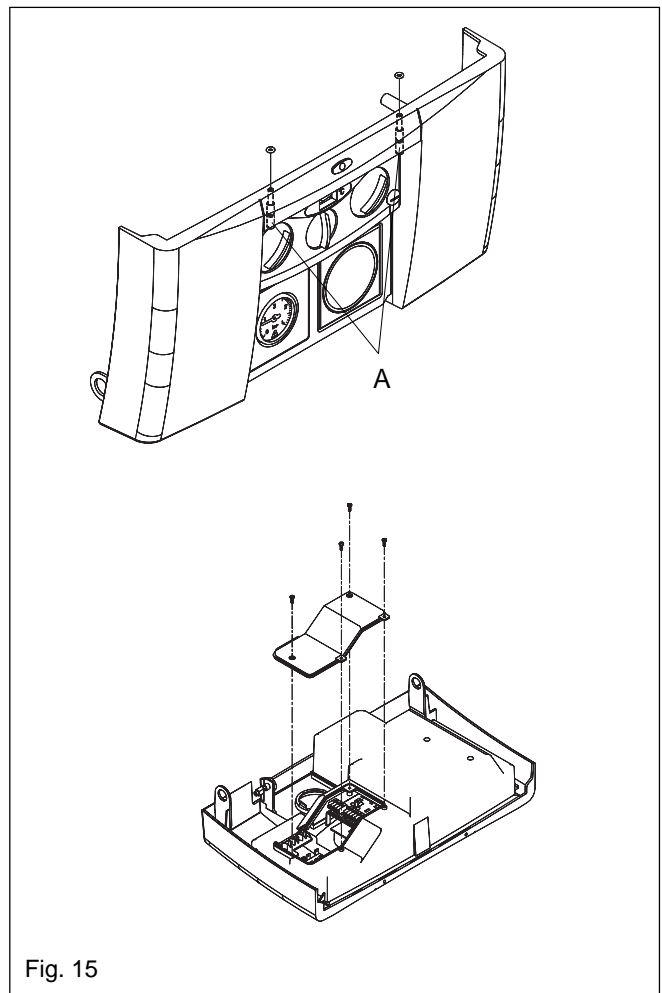

Fig. 15
- locate and unscrew the 2 screws that secure the controls fascia to the appliance casing (see fig. 15)
The appliance terminal block is located on the left side of the control fascia (see fig. 15). Locate and remove the screws securing the terminal block cover.